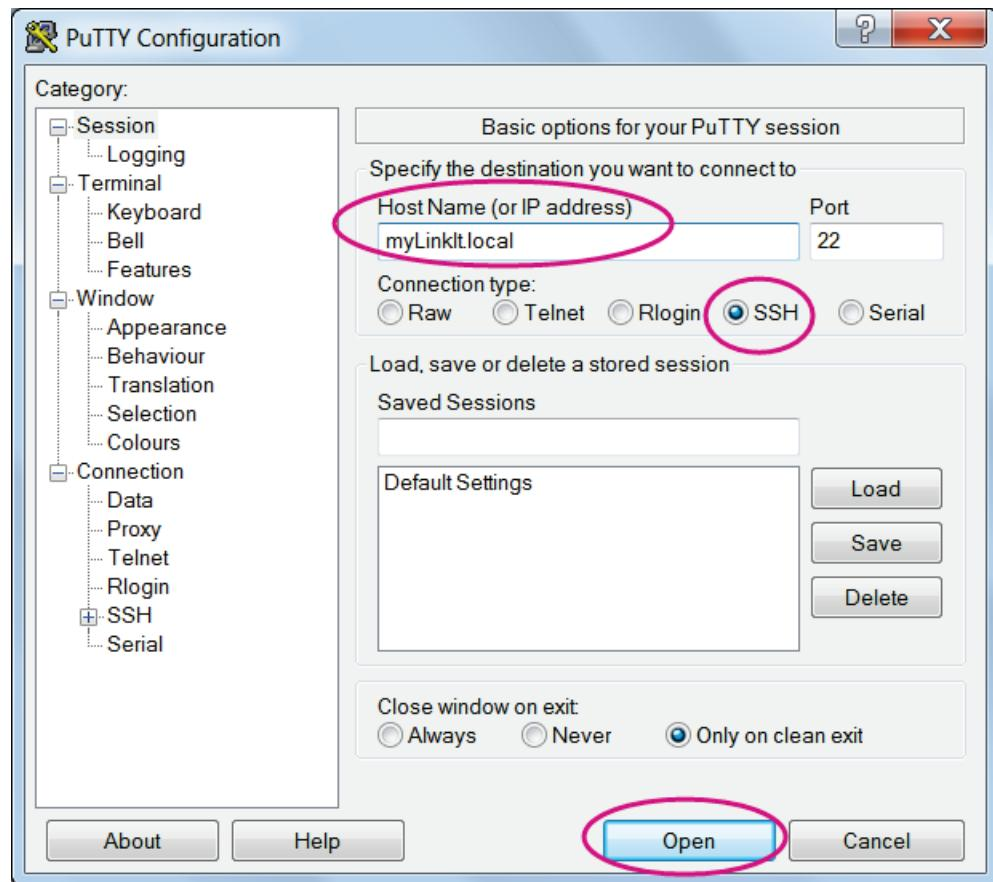

Figure 14 Using SSH in Windows PuTTY
- 2) Open PuTTY and a Security Alert window will pop up, click **Yes**. Then, in the PuTTY Configuration window, type **myLinkIt.local** in the Host Name box, check the **SSH** radio button and click **Open** as shown in Figure 14 .